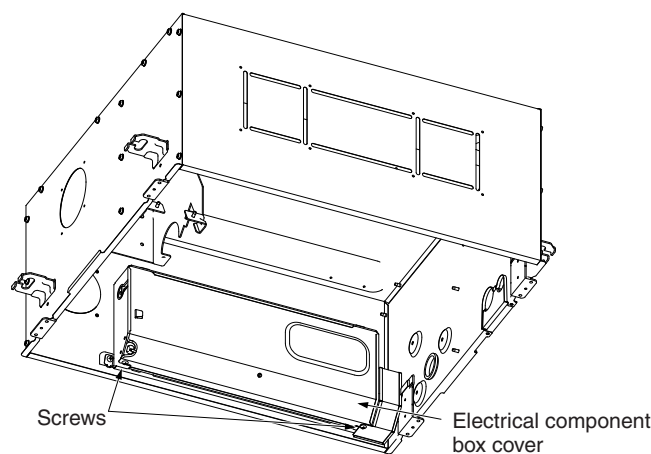

Fig. 3-80
- (1) Loosen the 2 screws on the electrical component box lid, and remove the lid. (Fig. 3-80)